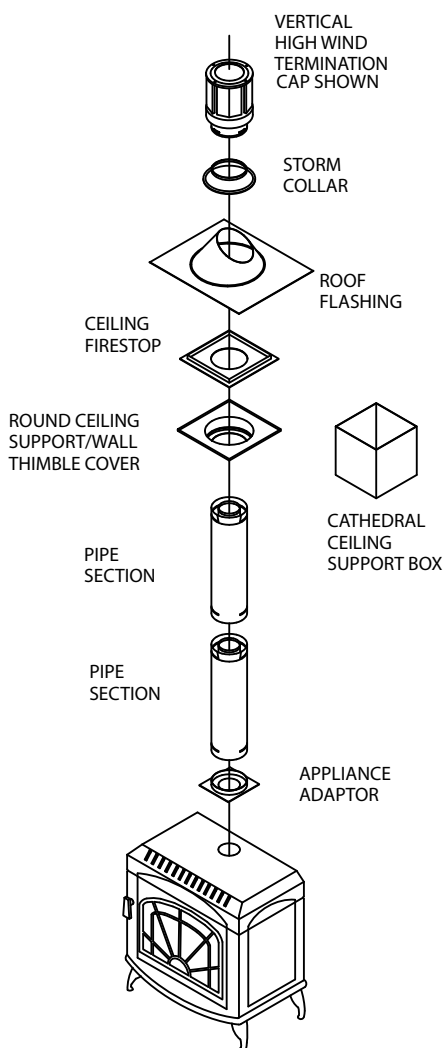

Figure 3
- Vertical Termination (***Fig. 3***)